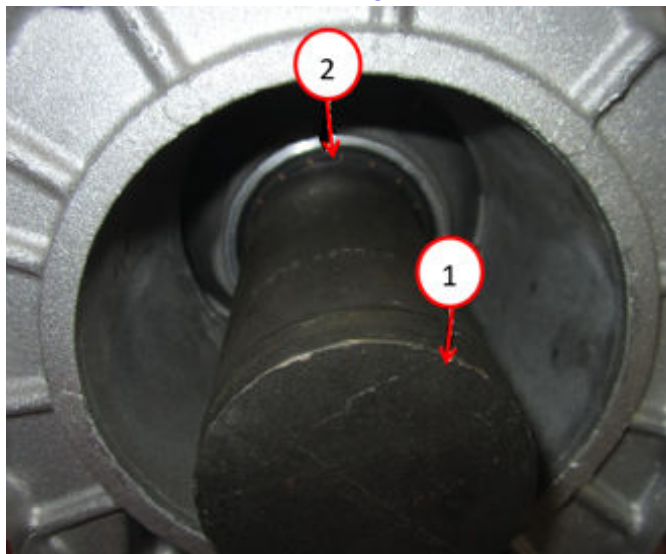

Fig. 52
76. Using Seal Installer 9677, install the output shaft seal Fig. 52.